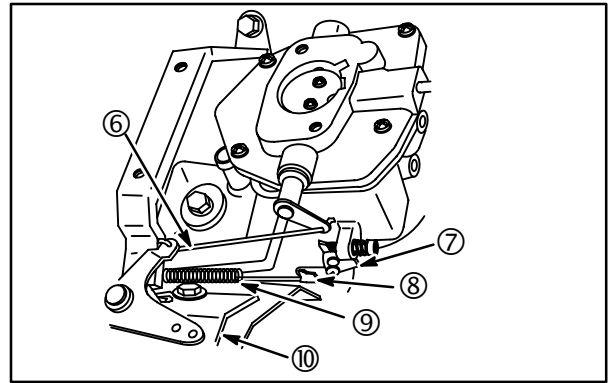

Fig. 31
3. Connect governor link (9) to throttle lever (7) and snap retainer (8) over link, **Fig. 31**.
5. Assemble choke link (6) to carburetor and choke lever and install choke bracket (10). Torque screws to **65 in. lbs. (7 Nm)**.